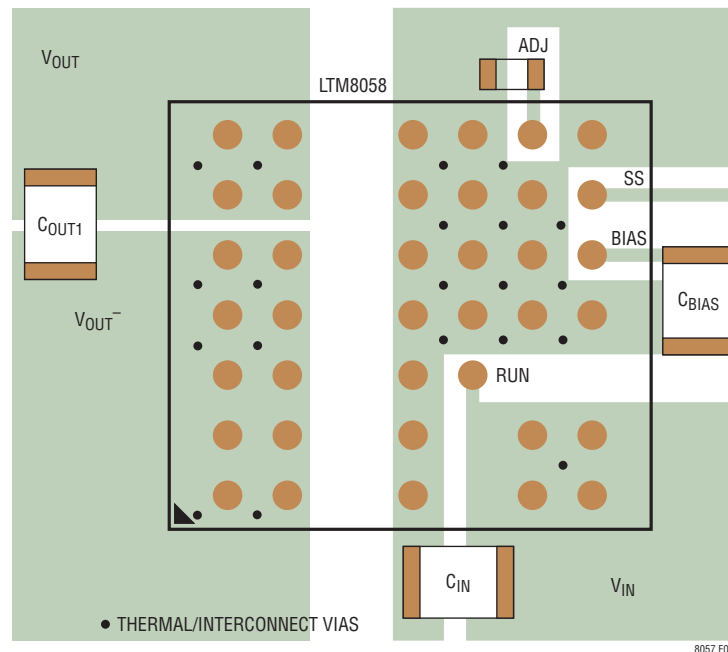

Figure 3. Layout Showing Suggested External Components, Planes and Thermal Vias
Most of the headaches associated with PCB layout have been alleviated or even eliminated by the high level of integration of the LTM8057. The LTM8057 is nevertheless a switching power supply, and care must be taken to minimize electrical noise to ensure proper operation. Even with the high level of integration, you may fail to achieve specified operation with a haphazard or poor layout. See Figure 3 for a suggested layout. Ensure that the grounding and heat sinking are acceptable.
6. Use vias to connect the GND copper area to the board's internal ground planes. Liberally distribute these GND vias to provide both a good ground connection and thermal path to the internal planes of the printed circuit board. Pay attention to the location and density of the thermal vias in Figure 3. The LTM8057 can benefit from the heat sinking afforded by vias that connect to internal GND planes at these locations, due to their proximity to internal power handling components. The optimum number of thermal vias depends upon the printed circuit board design. For example, a board might use very small via holes. It should employ more thermal vias than a board that uses larger holes.